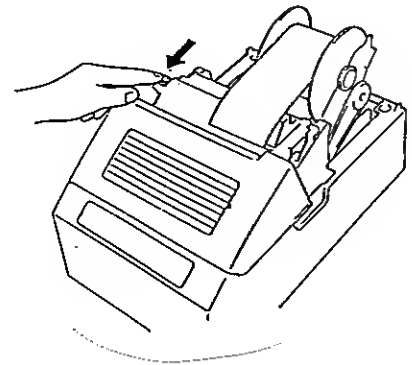

Fig. 1
- 2) Lift the green lever on the receipt side. (Fig. 1)